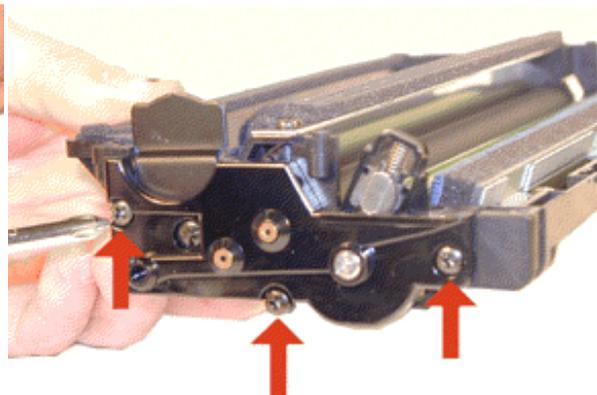

FIGURE 15
9. With the toner hopper away from you, remove the three screws on the left side end cap. Remove the end cap. See Figure 15